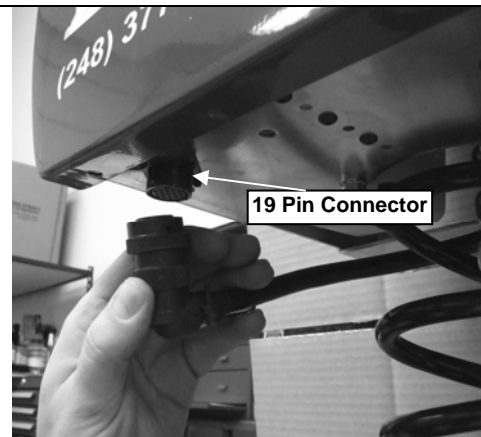

Figure 2-9
- 4) Connect the 19-pin connector to the bottom of the Servo Hoist. (Refer to Figure 2-9)